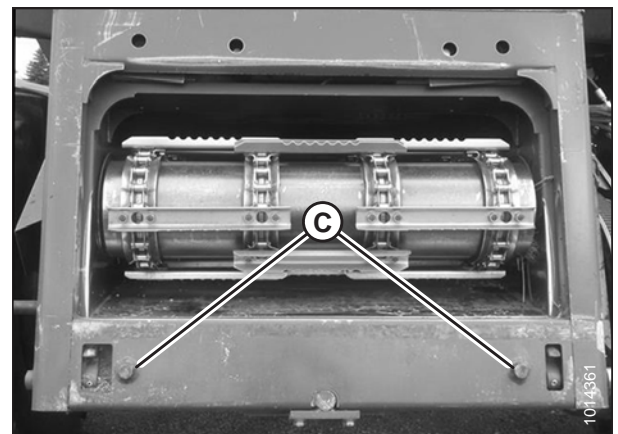

Figure 4.69: AGCO Group Alignment Pins
2. Start the engine and slowly approach the header until the feeder house is directly under float module top cross member (A) and alignment pins (C) (refer to Figure 4.69, page 347) on the feeder house are aligned with holes (B) in the float module frame.